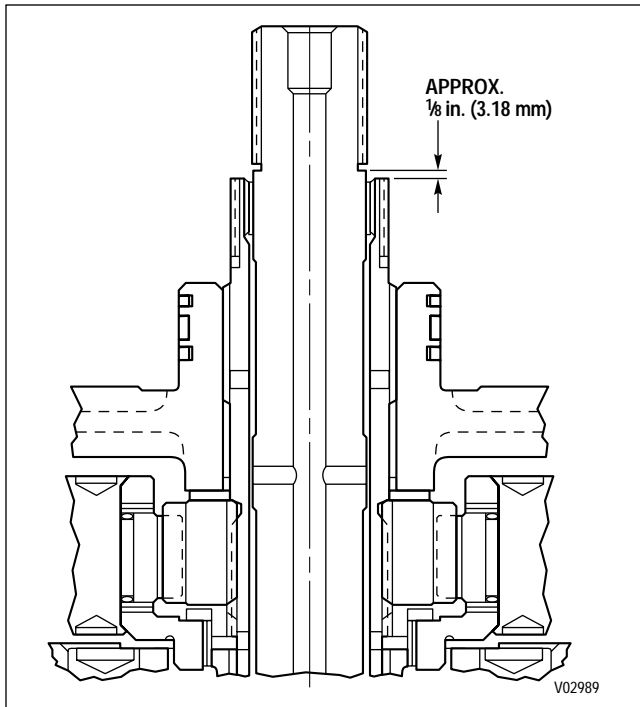

Figure 7-18. Sun Gear Shaft Clearance
- Do not remove the sun gear shaft assembly before checking the required clearance shown on Figure 7-18. If the clearance is less than 1/8 inch (3.18 mm), proceed with Step (2). Otherwise, skip Step (2) and proceed with Step (3).
(2) If the sun gear shaft assembly is properly seated, there should be approximately 1/8 inch (3.18 mm) distance from the end of the sun gear shaft assembly to the shoulder on the main shaft shown in Figure 7-18. If the shaft is not properly seated, a slow rotation with a slight up and down motion may seat it. If not, remove the shaft (noting its relative position to the main shaft) and center the front sun gear thrust washer so the sun gear shaft will bottom. Recheck the clearance (Figure 7-18).